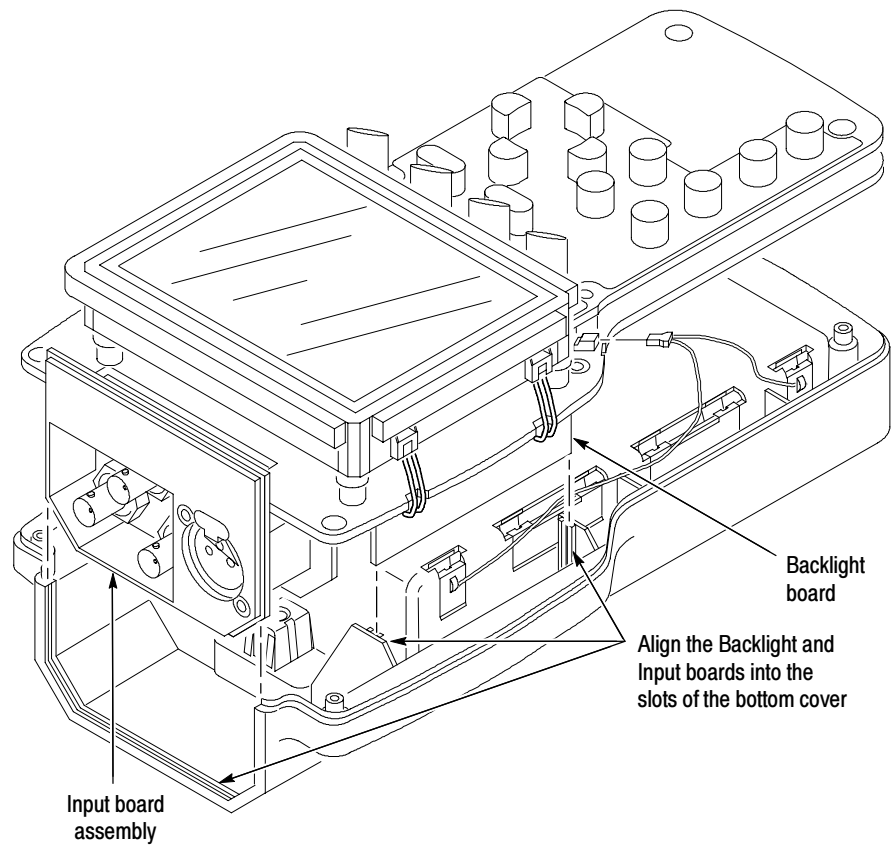

Figure 6-6: Installing the Bottom board
3. Align the Backlight and Input boards with the slots in the bottom cover and gently slide the boards into the bottom cover. See Figure 6-6.